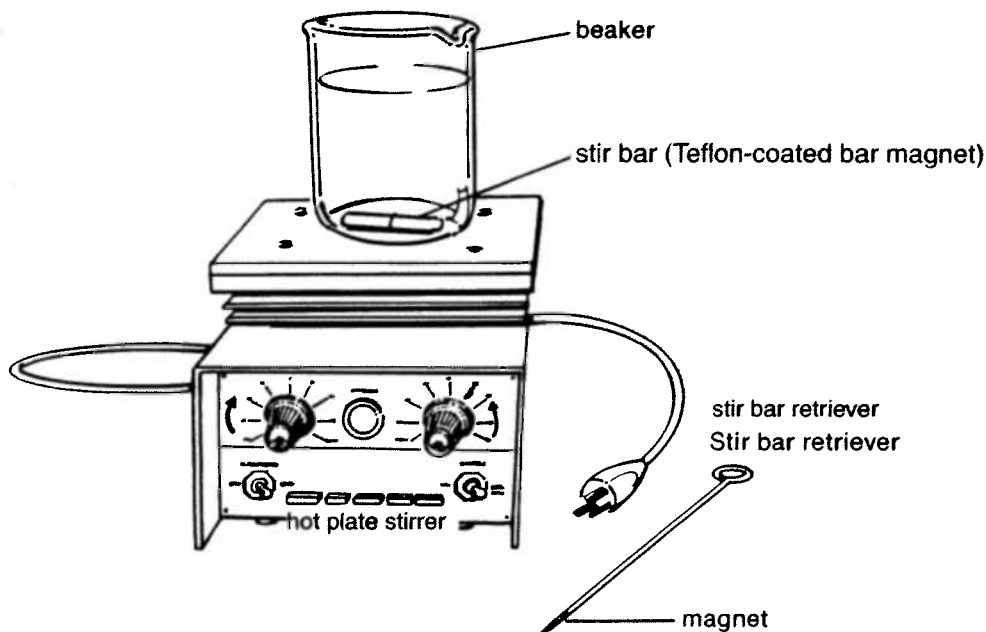

FIGURE 2-1
Study Figure 2-1 to familiarize yourself with the magnetic stirrer. Place a Teflon-coated magnet of appropriate size in the beaker with the measured water and powdered ingredients. When you turn the stirrer on (left-hand switch) a magnetic field is created that causes the magnet in the beaker to spin, stirring the medium. If you are preparing an agar medium that dissolves slowly or if the label directs you to
2. When the NA has come to a full boil, remove it from the hot plate stirrer and turn off both heat and stir controls. Remove the stirring magnet from the beaker with a stir bar retriever (shown in Figure 2-1). Rinse the magnet and stir bar retriever at once.